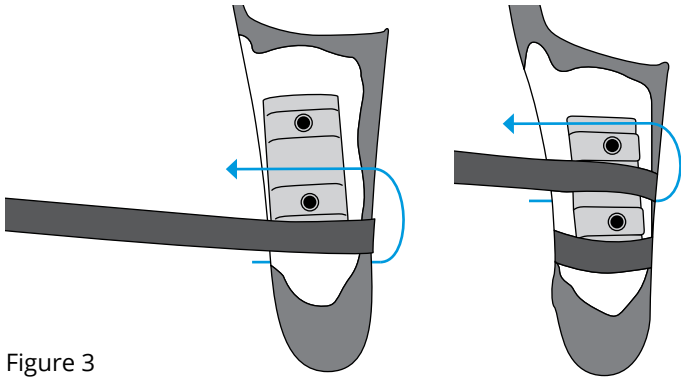

Figure 3
1. Start by wrapping one strip of 1 in. (2.5 cm) carbon tape in a spiral fashion to capture all three grooves in the plate (Figure 3).